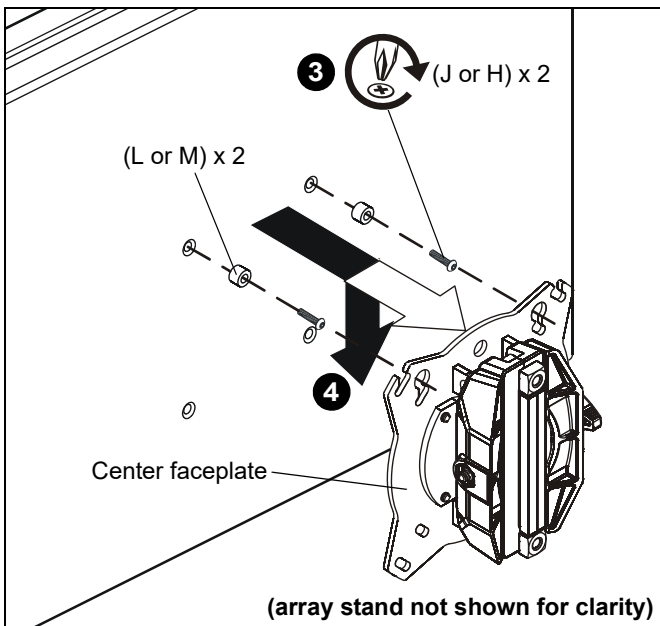

Figure 18
3. Using Phillips screwdriver, carefully install two selected screws (J or H) through selected spacers (L or M) into the *upper* mounting holes on the display. Thread screws completely into display, then back out 3 complete turns. (See Figure 18)
4. Pick up and align display so that screws (K) (installed on the back of the display in the previous step) fit into the mounting holes on the faceplate. Lower the display firmly into place. (See Figure 18)